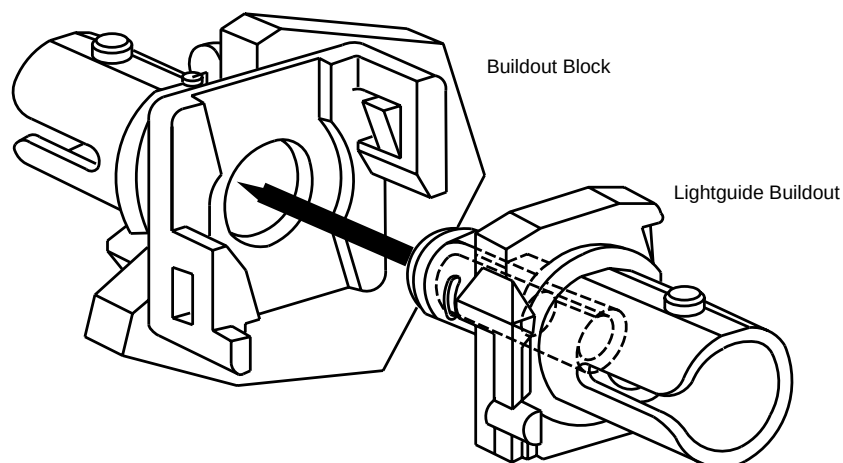

Figure 1. ST[®]-Type Universal Buildout
*The lightguide jumpers used to loop the **OLIUs** must be equipped with ST[®], FC/PC, or SC connectors at both ends, depending on the type of **OLIU** connector. See Figures 1, 2, and 3.*